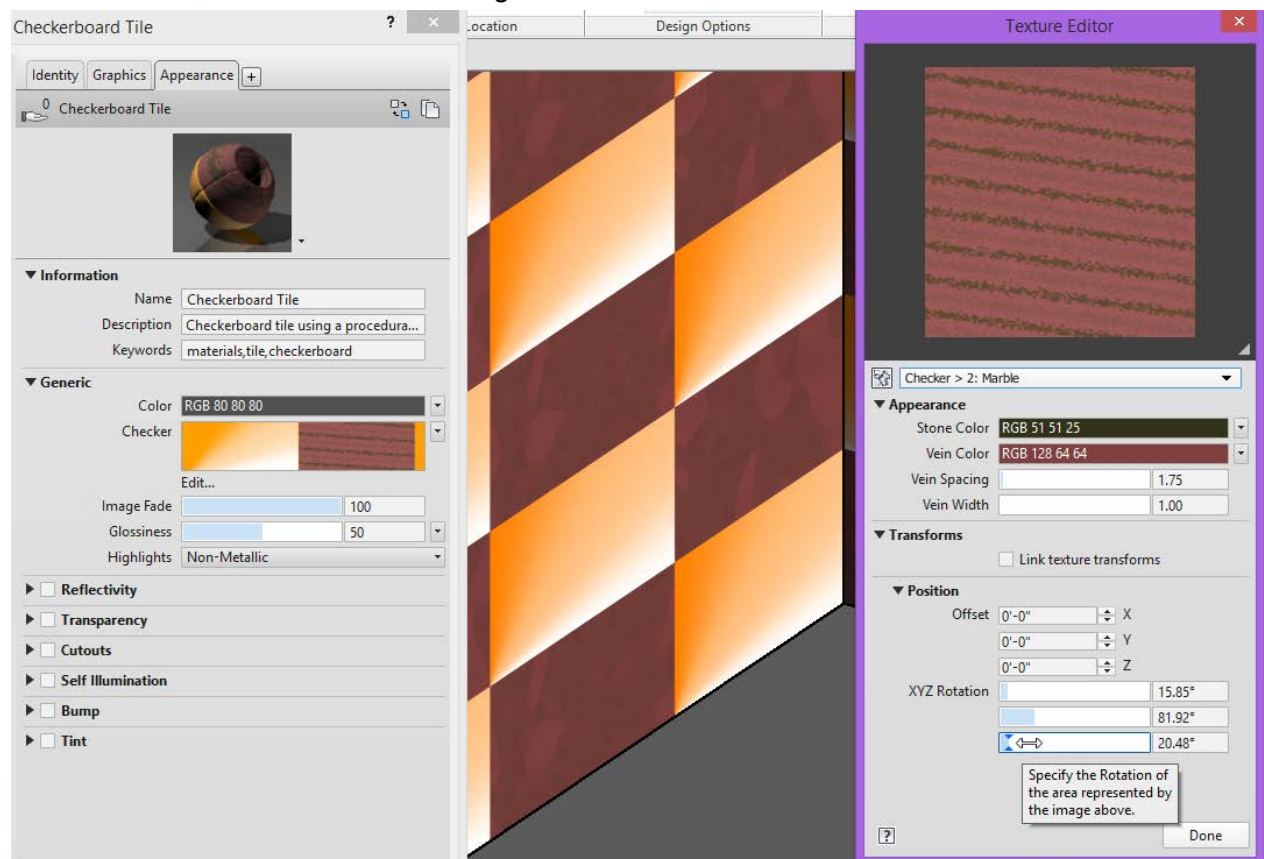

Figure 16—Vary some of the rotation settings, colors and vein settings to get better results
2. It will take some trial and error, but adjust the colors, Vein Spacing, Vein Width and rotations (see Figure 16).